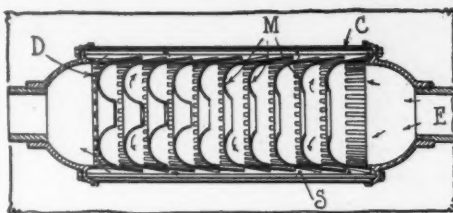

FIG. 2—MILLER'S MUFFLER DESIGN
**Muffler Design**—No. 981,584, dated January 10; to James Madison Miller, Washington, D. C.—The muffler or silencer to which this patent relates is illustrated in Fig. 2, and its important feature is a series of baffle plates or deflecting members M arranged in alignment and forming a central passage through the muffler, which is surrounded by an annular collecting space S between the outer edges of the deflecting members and the casing C. The final deflector D corresponds to the remaining deflectors, except that it is perforated and